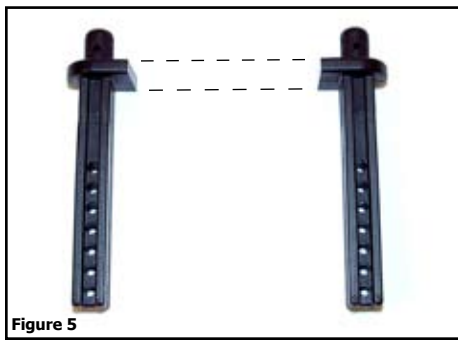

Figure 5
8. Modify the rear body mount post by cutting the middle section out as shown in *Figure 5*. Re-install the body posts on the chassis.